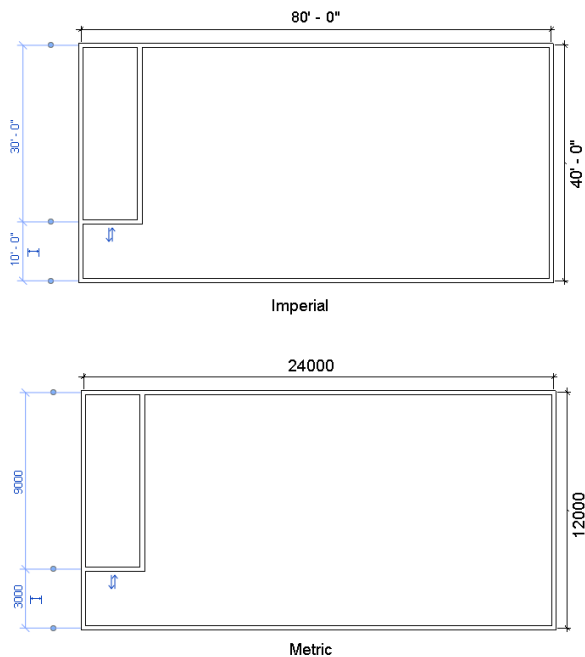

Figure 3-66 Specifying the first interior wall segment
- Next, move the cursor vertically downward and enter **30'** for Imperial (**9000 mm** for Metric) and close the wall segment, as shown in Figure 3-66; the interior wall segment is sketched.